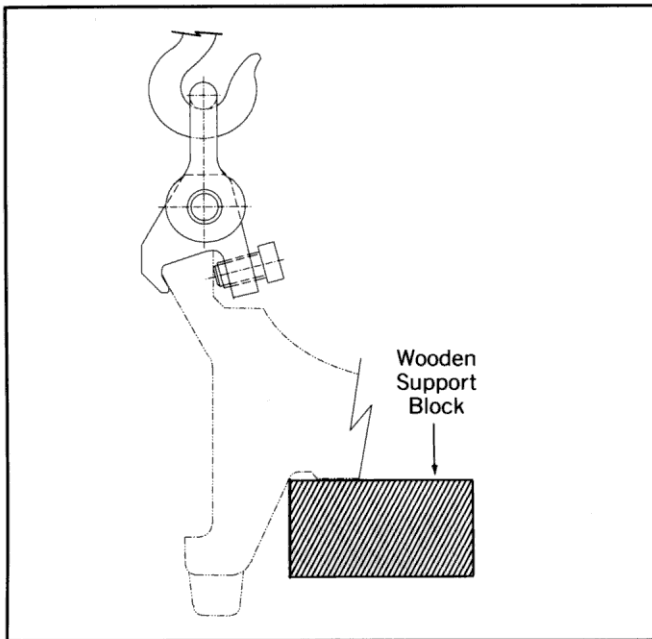

Figure 2 Clamp showing typical block location.
1. Grasp the ring with the lifting clamps and lift it just high enough to install wooden blocks between the ring and the ring seating surface of the yoke (see Figure 2).